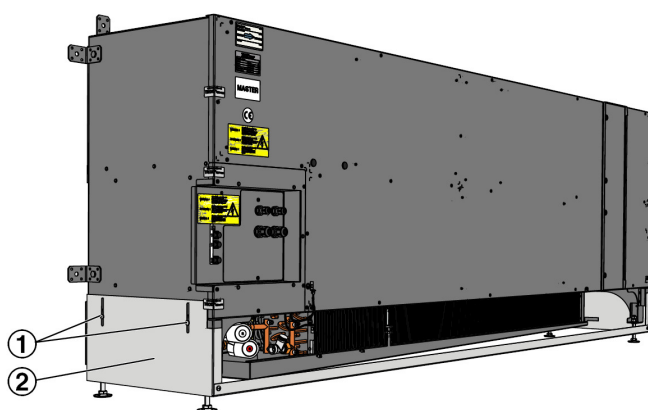

Fig. 10: Air distribution connector
4. ▶ On the front of the device, loosen the four Phillips screws (Fig. 10/1) and lower the air distribution connector (Fig. 10/2) to the ground. Then tighten the screws again.